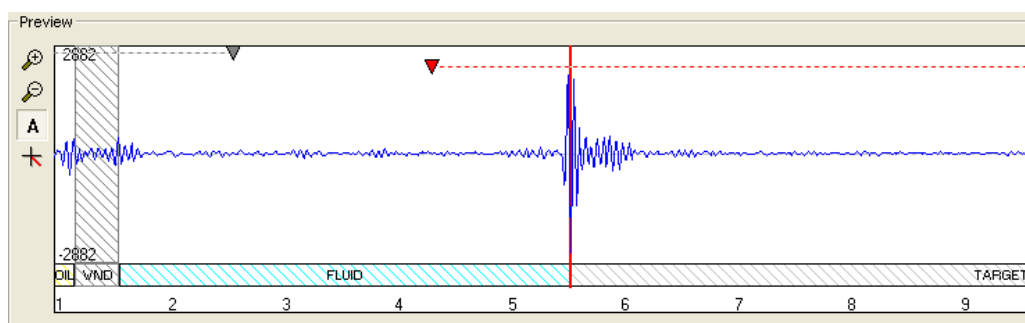

Figure 3-11 Start gate set in manual mode
- **Manual:** Manual adjustment of the Echo Gate start time is useful to exclude noise with amplitudes higher than the formation signal (e.g. exclude the reflection from the inside of a PVC casing) – (Figure 3-11).